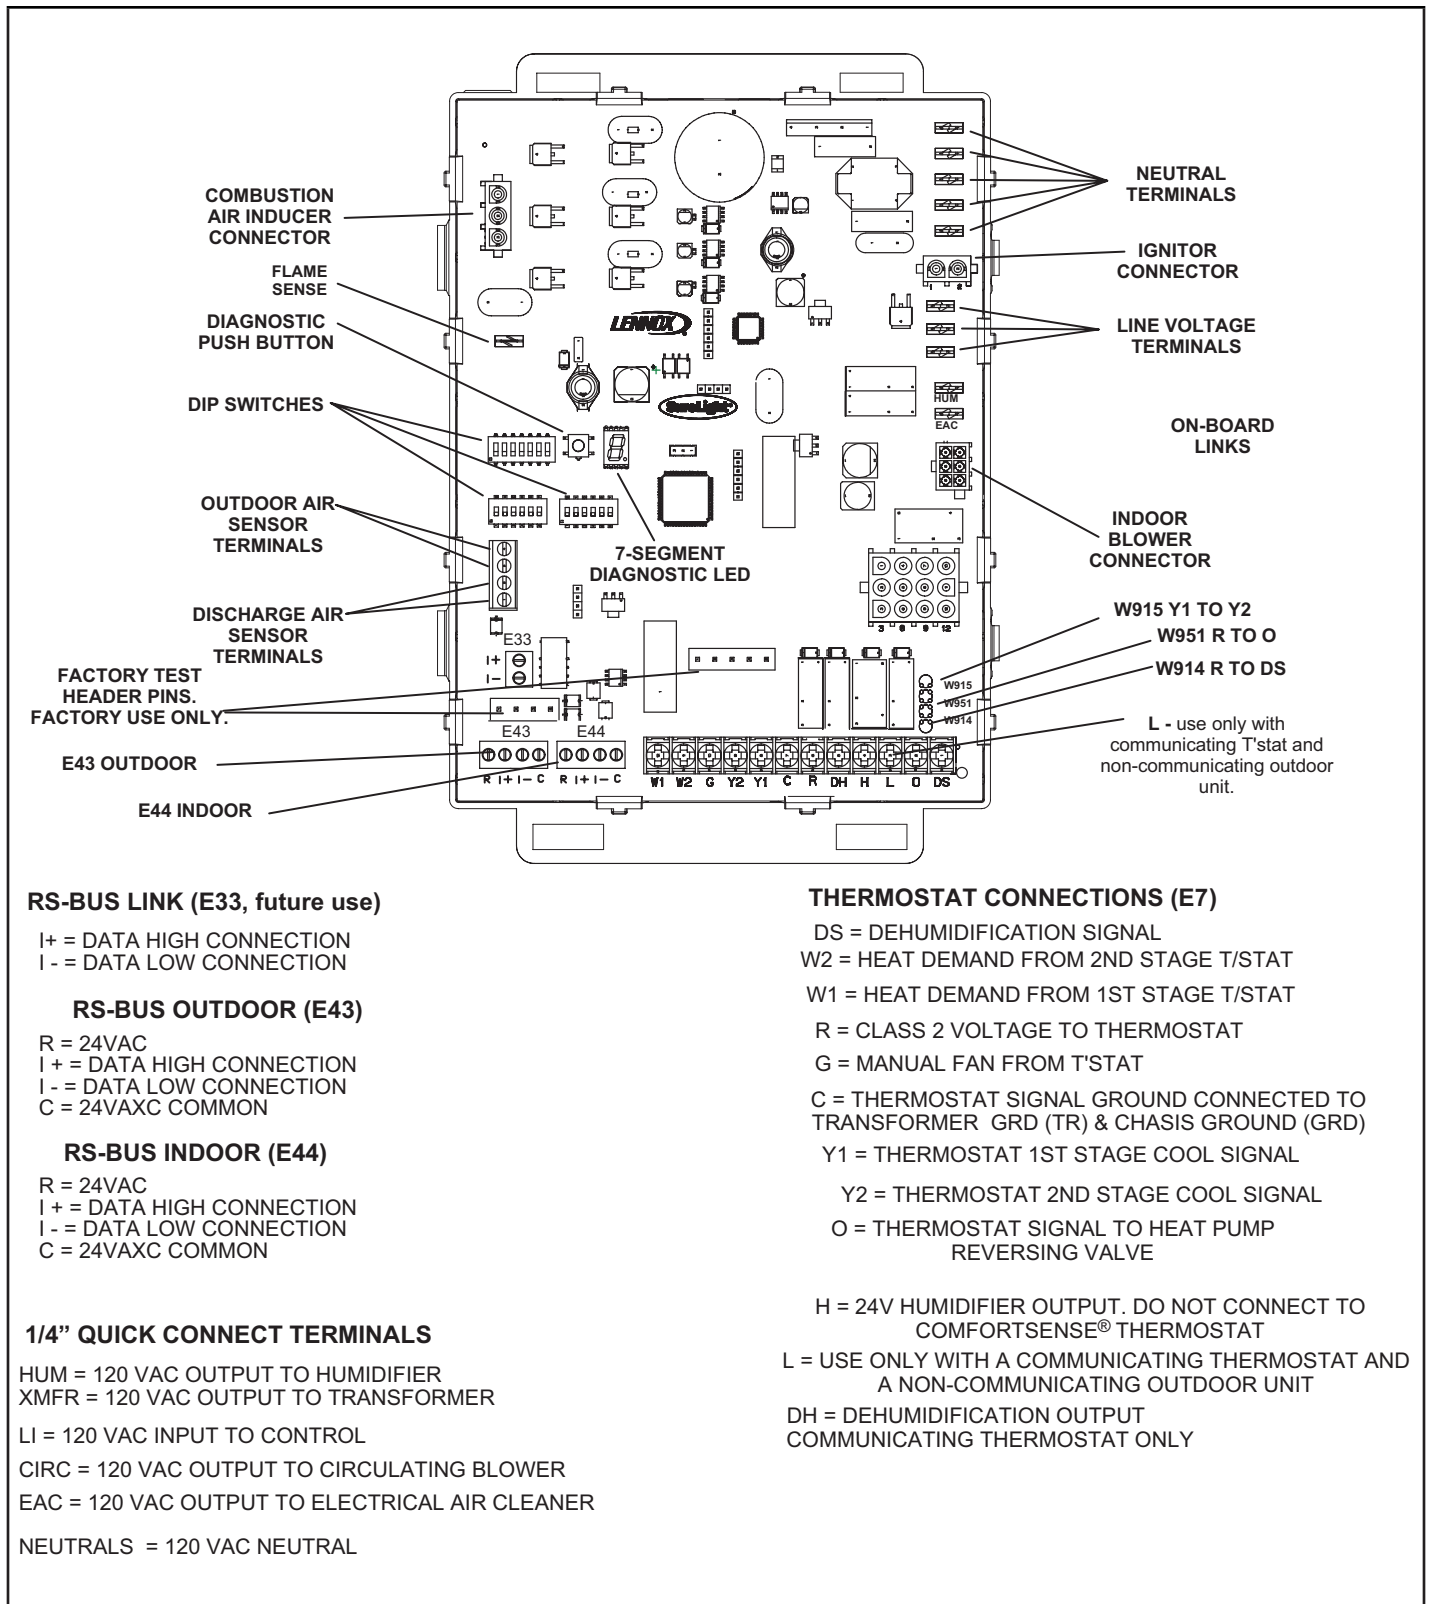
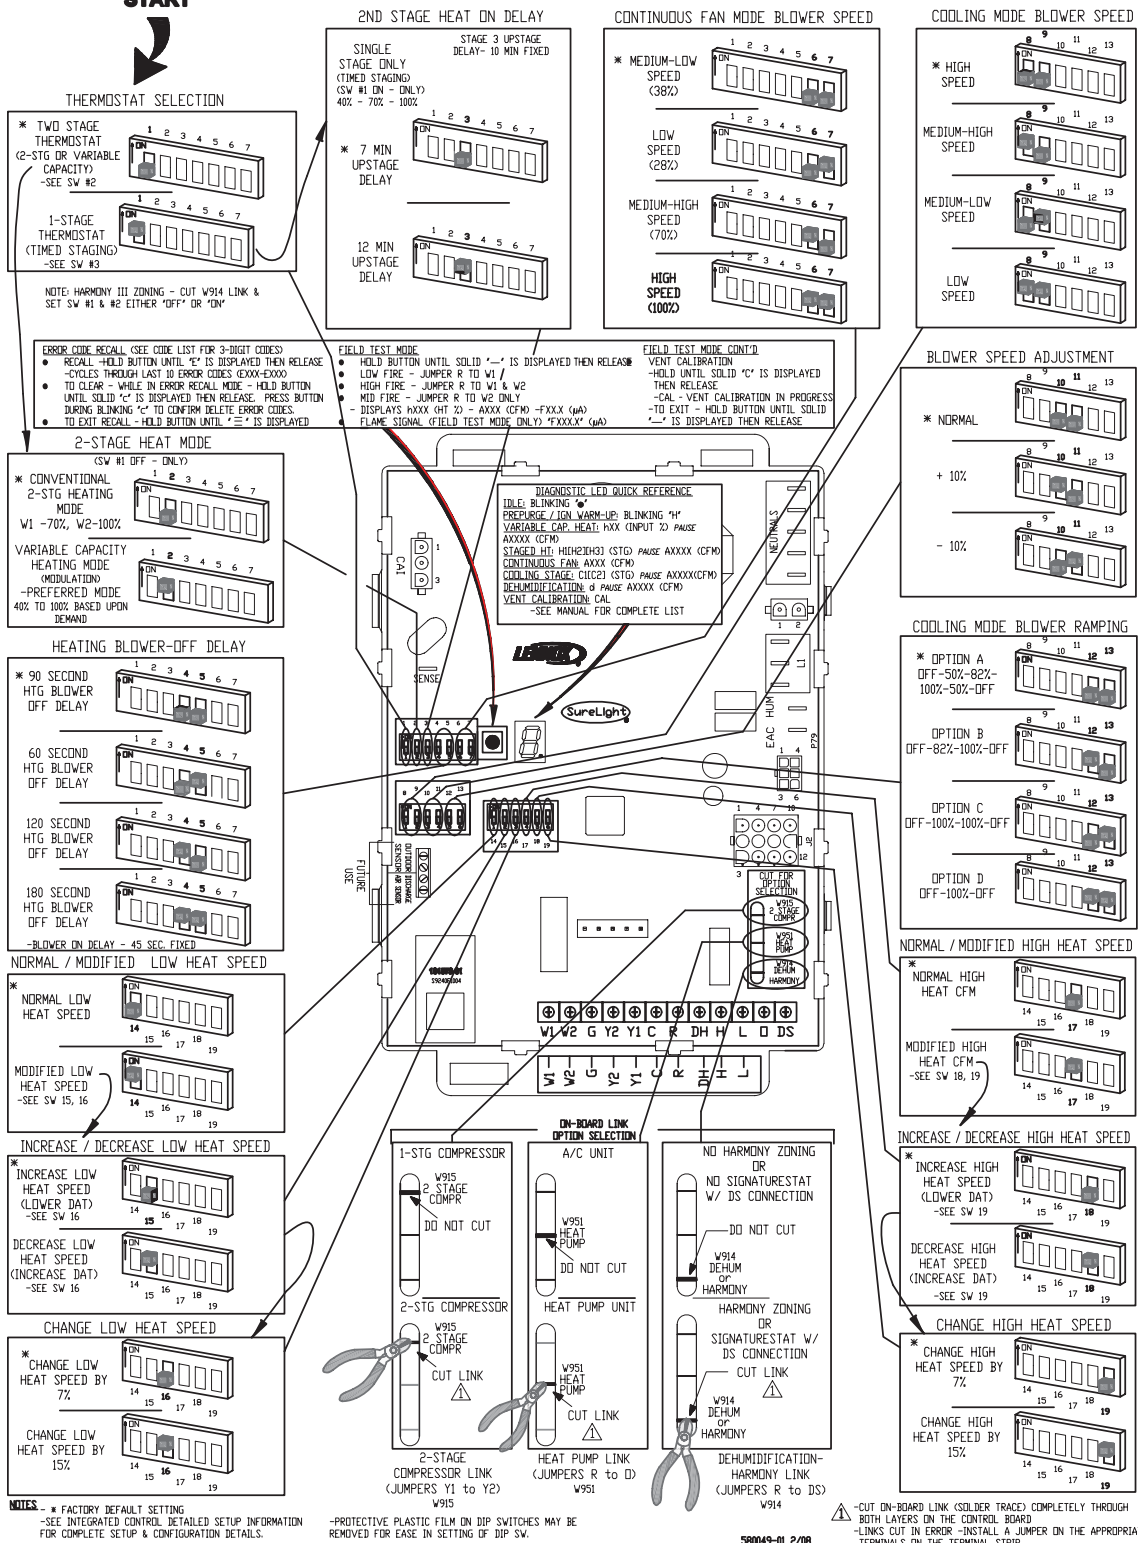

FIGURE 4
FIGURE 5
SLP99DFV units are equipped with the Lennox SureLight® variable-capacity integrated control. This control can be used with a communicating thermostat as part of a communicating system. The control can also operate with a conventional single or two-stage thermostat. The system consists of an ignition / blower control (FIGURE 4 and FIGURE 5) with control pin designations in TABLE 1, TABLE 2 and ignitor. The control provides gas ignition, safety checks and indoor blower control with variable capacity rate gas heating. The furnace combustion air inducer, gas valve and indoor blower are controlled in response to various system inputs such as thermostat signal, pressure and limit switch signal and flame signal. The control features a seven-segment LED display, indicating furnace status (including indoor blower) and error codes. The LED flashes in single digits. For example using table 14 under LIMIT CODE, an "E" followed by "2" followed by "5" followed by "0", the limit switch circuit is open. The control also has two 120 volt accessory terminals (used for a humidifier and electronic air cleaner) rated at (1) one amp each.
The control can be made to operate in three modes: variable capacity, three-stage timed or two-stage. The variable capacity and two-stage modes are only operational with a two-stage thermostat. The thermostat selection is made using DIP switches one and / or two (figure 4) and must be positioned for the particular application.
Heating Operation DIP Switch Settings -- FIGURE 4 Switch 1 -- Thermostat Selection -- This unit may be used with either a single-stage or two-stage thermostat. The thermostat selection is made using a DIP switch which must be properly positioned for the particular application. The DIP switch is factory-positioned for use with a two-stage thermostat. If a single-stage thermostat is to be used, the DIP switch must be repositioned. See TABLE 3.
On-Board Link W914 DS to R (FIGURE 4)
On-Board Link W951 R to O (FIGURE 4)
On-Board Link W915 Y1 to Y2 (FIGURE 4)